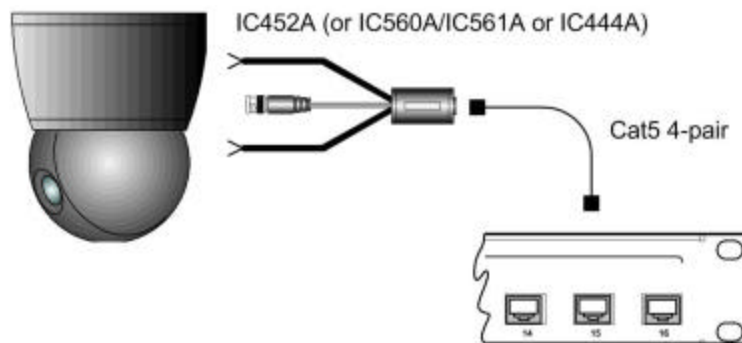

Figure 5: Camera connection
3. Connect one Cat5 cable from each camera to one of the modular RJ45 ports on the front of the Passive CCTV Hub (fig 5). Please ensure that EIA 568 wiring and straight-through polarity is respected between the CCTV balun and the rack. The use of other Cat5 connection hardware such as patch panels and 110 blocks may be used.